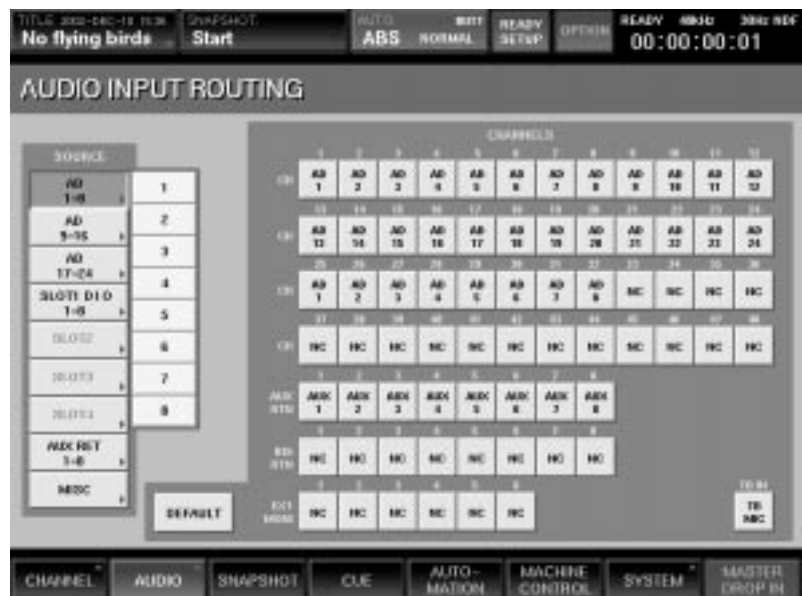

Figure 15
- You can also, of course, do input patching on an individual basis. If you press a SOURCE selection a second time, a second drop-down menu will appear. This menu lists all of the independent sources within that group of 8. For example, press the AD 1-8 button and you will see a listing of each of the first 8 AD inputs (the head amp connectors). (See Figure 15)